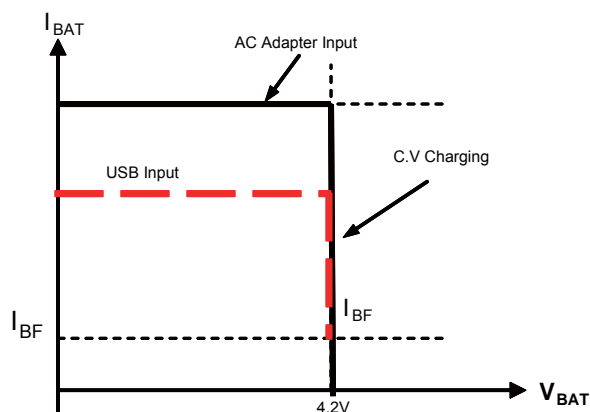

Figure 2—MP26056 Typical Charging Profile
Figure 2 below shows the typical charging profile for the MP26056. The MP26056 will start with the Constant Current charge of the programmed value (I_{CHG}) based on R_{setx} . This is referred to as Constant Current (CC) mode. Once the battery voltage reaches 4.2V, the charger will operate in the constant voltage (CV) mode until the battery is fully charged. The charge current drops during CV mode, and the battery full indication is set when the charge current reduced to the preset value based on R_{IBF} , but the charger keeps charging the battery until battery reach 4.2V when AC adaptor is used as supply. If USB is